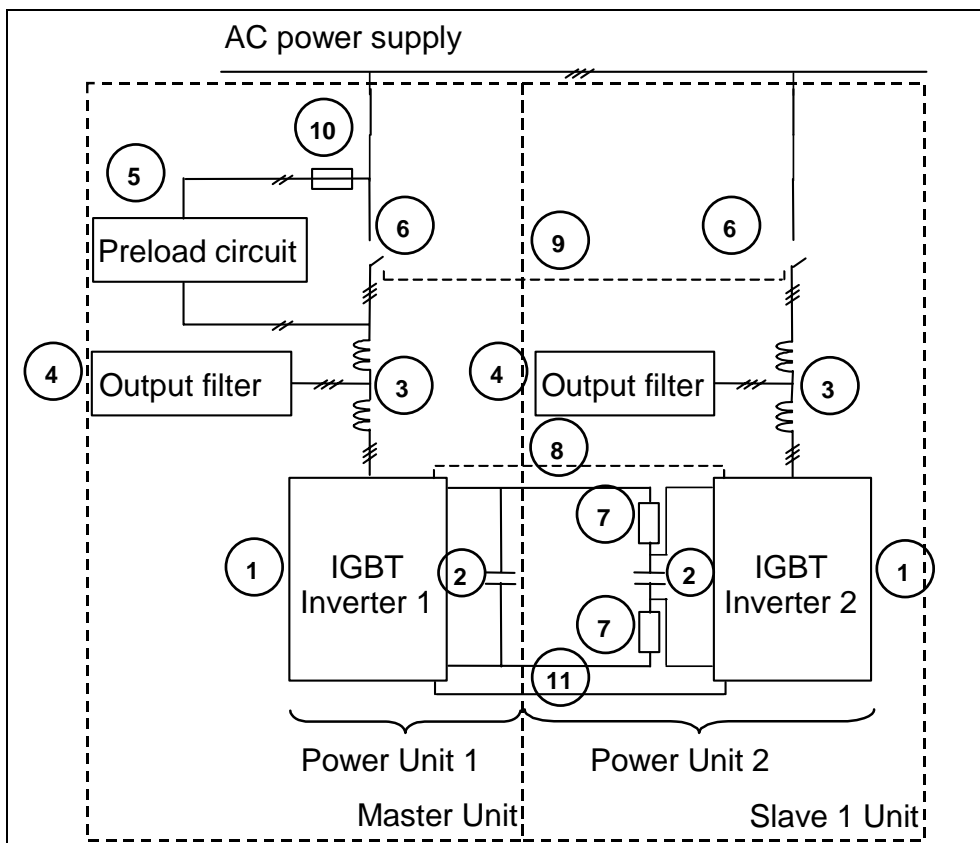

Figure 5.4. Power circuit diagram of a 2 unit PQFI active filter
In Figure 5.4, it may be seen that each current generator consists of an IGBT-inverter bridge (1) that is controlled using PWM-switching technology. Information from the filter controller is sent to the IGBTs by means of an optical link. At the output of the inverter a voltage waveform is generated which contains the desired spectral components (imposed by the filter controller) as well as high frequency noise (due to the IGBT switching technology). A coupling impedance consisting of a reactor (3) and a high frequency rejection filter (4) ensures that the useful voltage components are converted into a useful current while the high frequency noise is absorbed. The IGBT-inverter is equipped with DC capacitors that act as energy storage reservoirs (2).